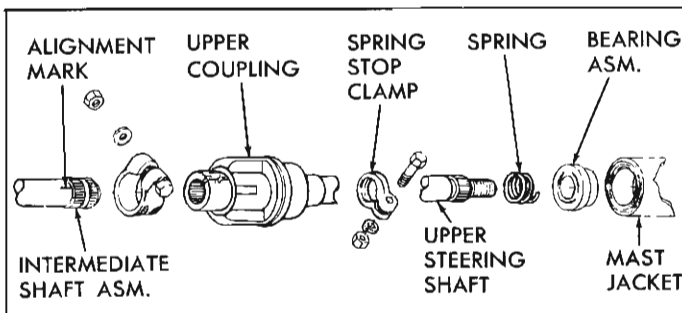

Fig. 3—Installation of Upper Steering Coupling
#### Installation (Fig. 3)
1. With the front wheels straight ahead, remove the upper coupling clamp bolt (fig. 3), then push the upper coupling toward the dash as required to free the upper end of the intermediate shaft.
Further upward movement may be obtained if necessary by loosening steering shaft spring stop clamp (fig. 3).